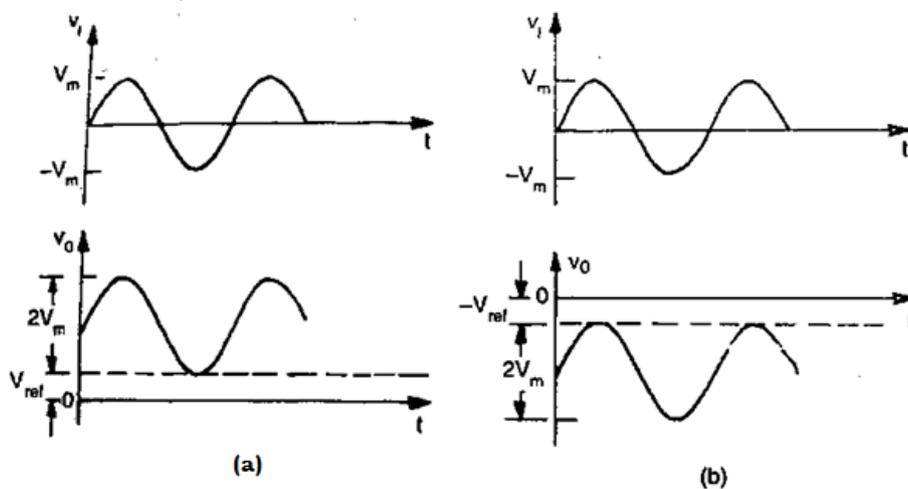

Fig. 3.49 (a) Waveforms for $+ V_{ref}$ (b) Waveforms for $- V_{ref}$
- The input and output waveforms are shown in Fig.3.49 (a).
- The expected waveforms are shown in Fig.3.49 (b). The resistor R is used for protecting the op-amp against excessive discharge currents from capacitor C_1 especially when the d.c. supply voltages are switched off.